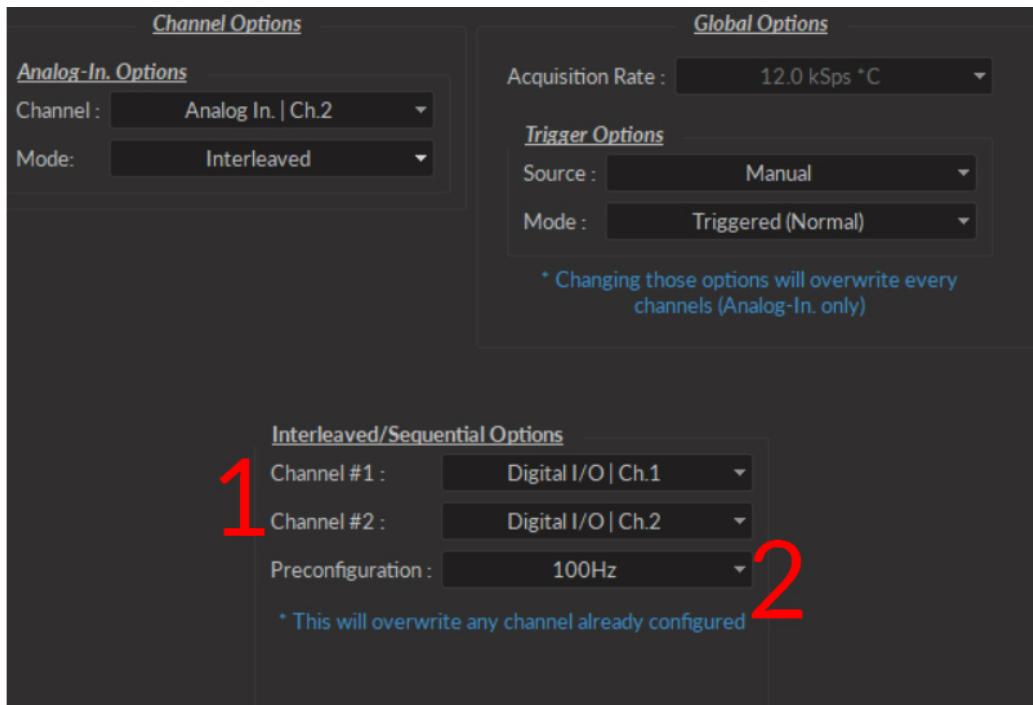

Figure 2.6: Channels configuration, Analog Input Interleaved Mode
The following section describes the usage of the **Interleaved** measurement mode for **Analog Input** channels. Once the **Interleaved** channel mode is chosen, the **Interleaved/Sequential options** box (Fig. 2.6) appears, containing the following parameters.
- The **Raw Data** (AIn-1) (Fig. 2.6) shows the raw signal received on the input channel.
- The **Intermediate Data** (AIn-1 x DI/O-1) (Fig. 2.6) traces show the fluorescence signal caused by each light source, obtained by multiplying the output signals by the input signal.
- The **Deinterleaved Data** (AIn-1 x DI/O-1(mean)) (Fig. 2.6) shows the averaged signal of each demodulated pulse. This leaves a single averaged point per pulse sent by the output channels.